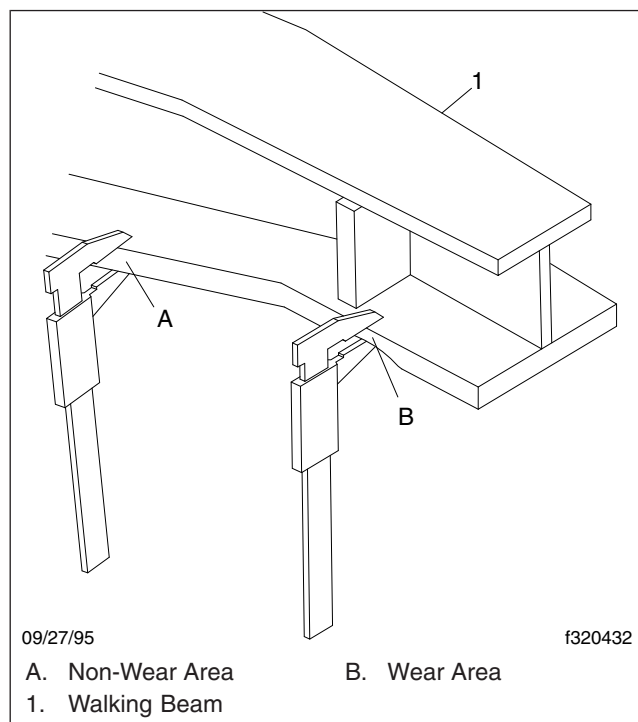

Fig. 7, Walking Beam End Wear Thickness
5. Manipulate the walking beam so that a micrometer, vernier, or dial caliper can be used to determine the wear area thickness on the bottom face. See Fig. 7. Measurements should be taken a minimum of 1/2 inch from the beam flange edges to eliminate any edge wear that may have occurred. Subtract the wear area thickness (see Fig. 7, Ref. B) from the thickness at the non-wear area (see Fig. 7, Ref. A) to determine the amount of wear.